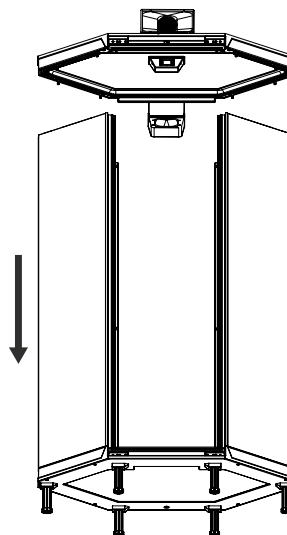
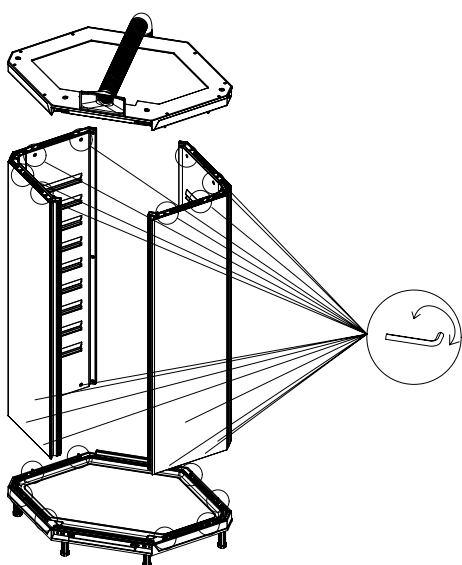

Fig. 8-5
Fig. 8-7
3. Put the roof element on the two sidewalls (figure 8-5 and 8-6).
4. Do not completely lock the roof element together with the sidewall elements only slightly by using the M6 Hex key (3-1) . (The reason for not locking completely is to make it easier to fit the cooling unit into the niche).
7. The cooling unit must face towards the corner in the kitchen. Assembly the cooling unit in the niche by lifting the backwall through the door opening, tilt the top against you and lift the cooling unit into the niche (figure 8-7/8-8).